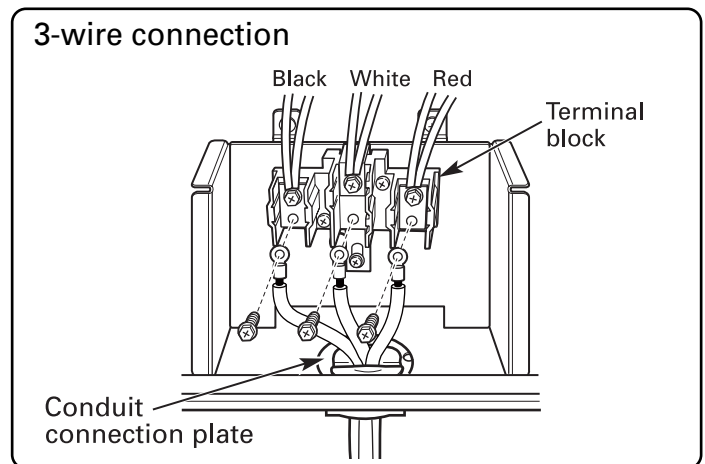

FIGURE 6
1. Remove the lower 3 screws from the terminal block and retain them. (Refer to Figure 6.)